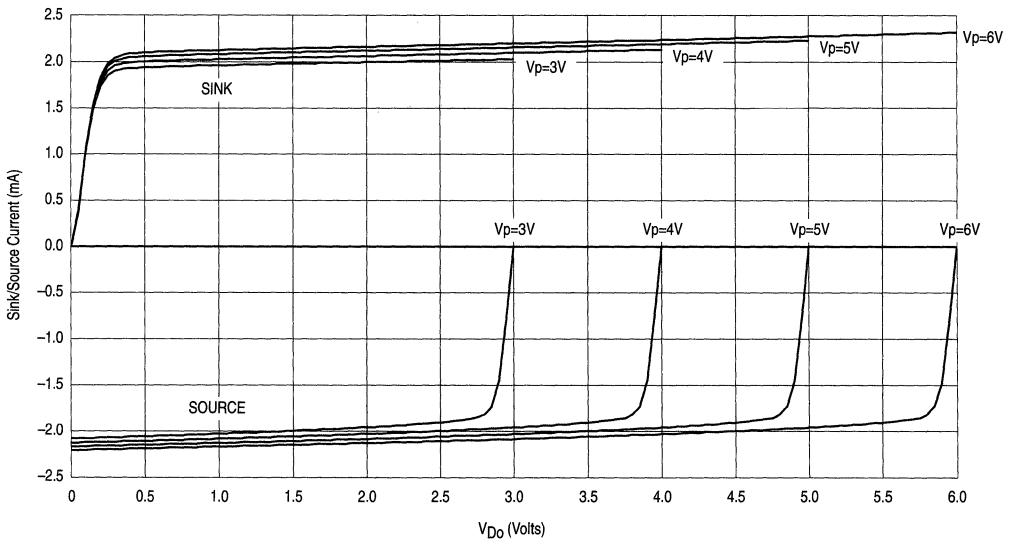

Figure 9. Typical MC12310 Charge Pump Sink and Source Current versus  $V_{Do}$
6. Source current flows out of the pin and sink current flows into the pin, typical charge pump sink and source curves are found in Figure 9.